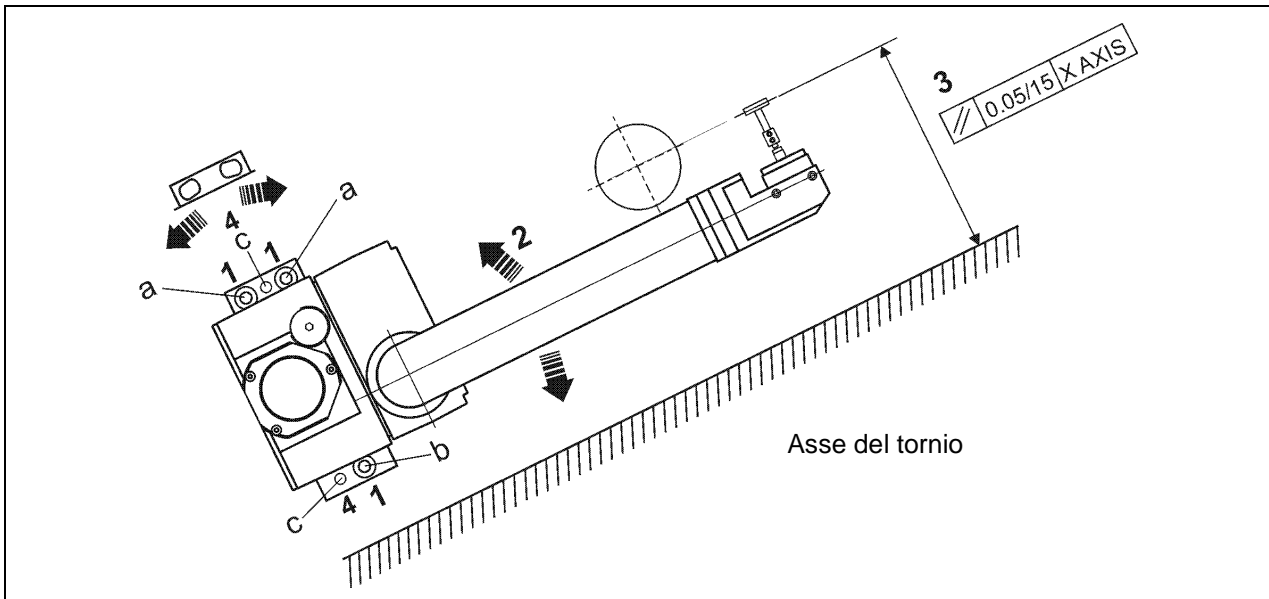

Figure 5-4. Aligning the arm.
2. rotate the arm with respect to the screw (b) in order to align the contact so that it is parallel to the machine X axis. The contact must be parallel to the machine X axis to within 0.05 mm (see Figure 5-4).